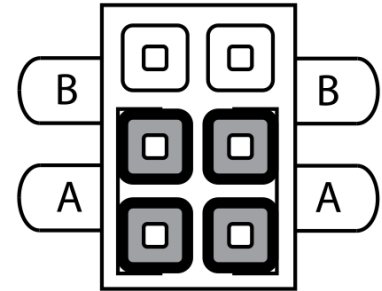

Figure 7: Class A Jumper Setting
1. Set the jumper assigned to the loop to the "A" position, as shown in Figure 7.